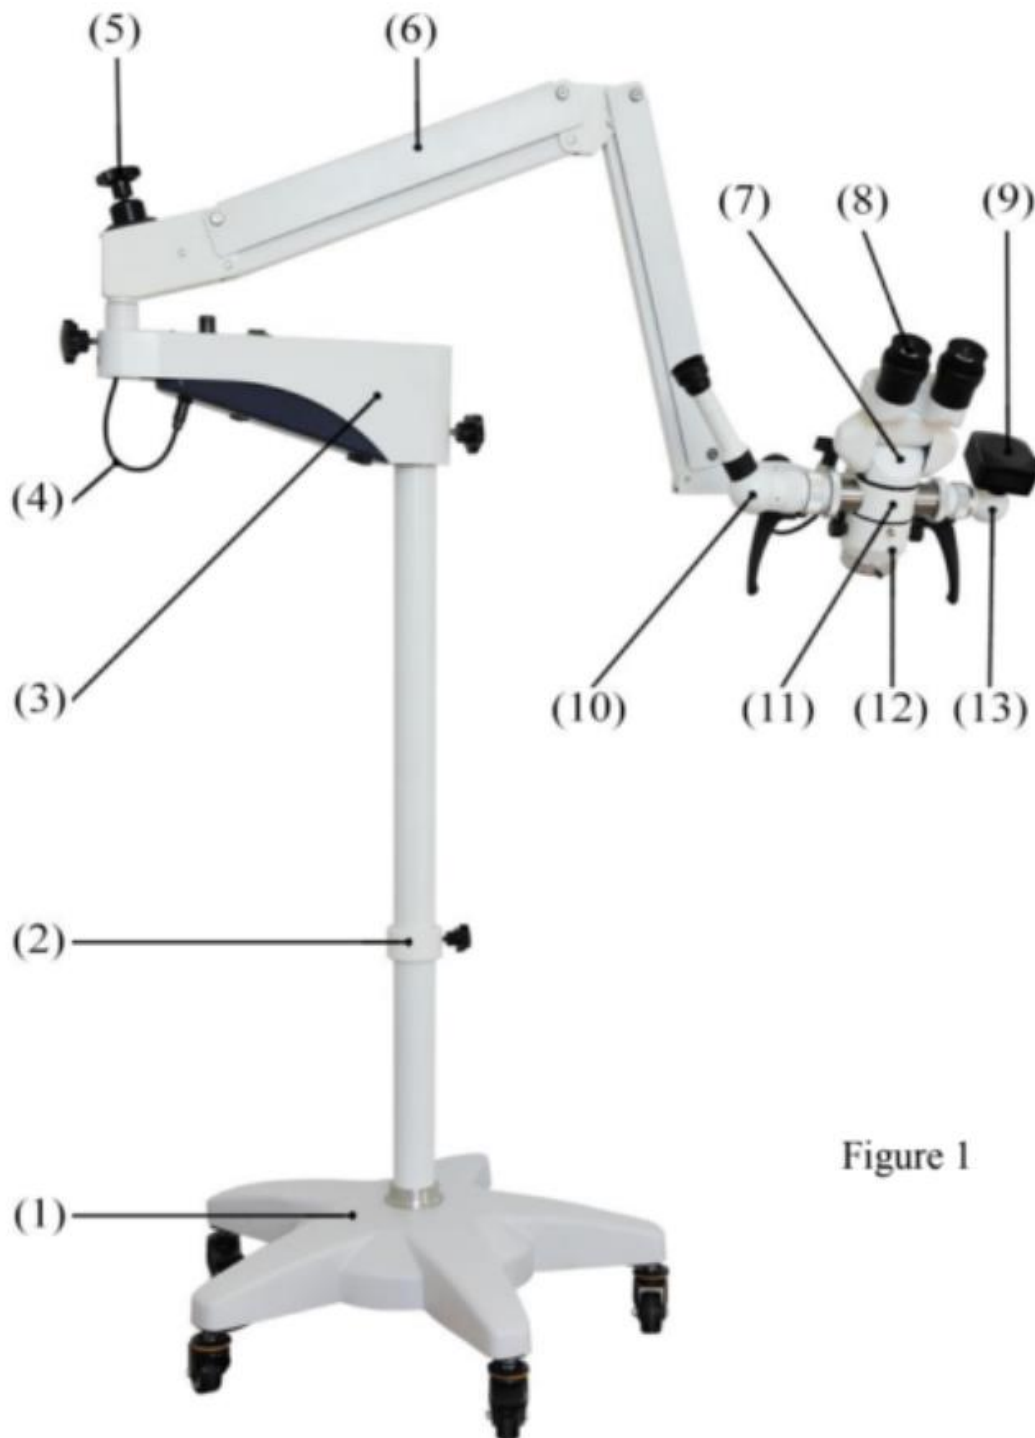

Figure 1
4.3 Arm assembly (see Figure 1)
4.5 The description of other parts is as follows (see Figure 1):